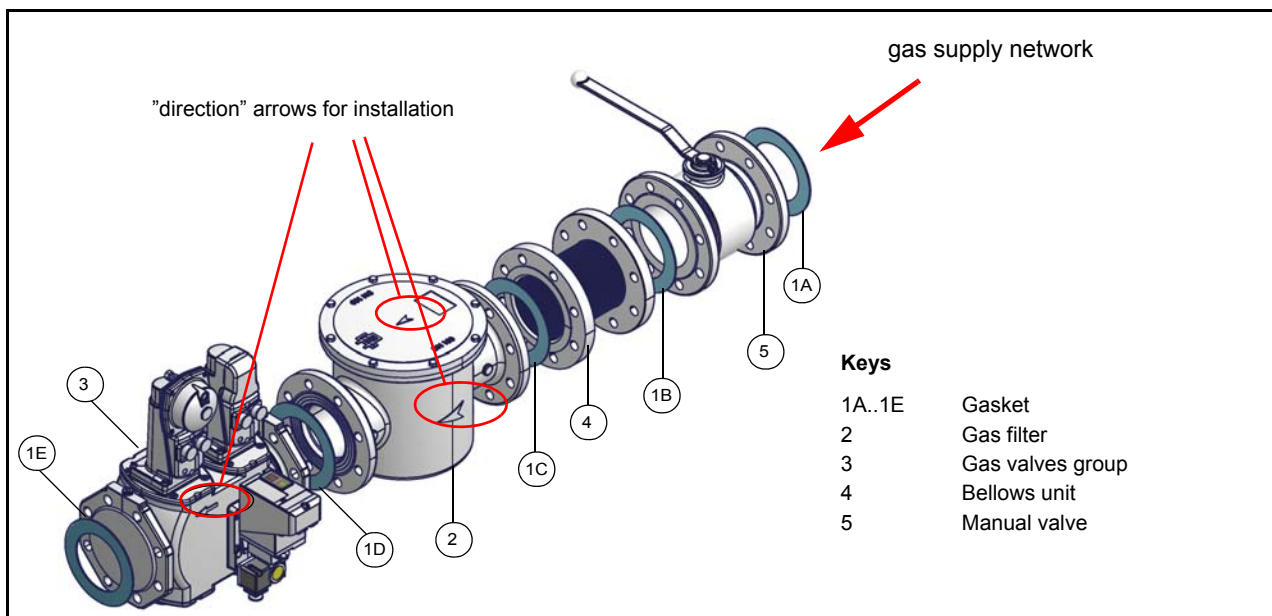

Fig. 3 - Example of gas train
- 1-b) in case of flanged joints: place a gasket (no. 1A..1E - Fig. 3) between the elements
ATTENTION: once the gas train is mounted according to the diagram on Fig. 3, the gas proving test must be performed, according to the procedure set by the laws in force.